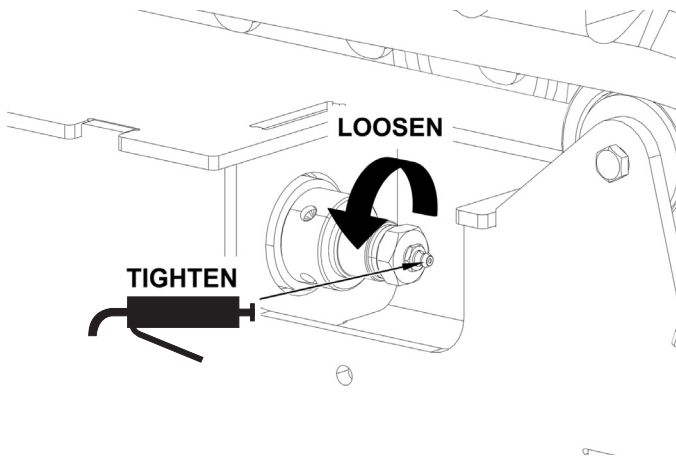

Figure 5-7. Tightening & Loosening Track
3. Pump grease into the grease zerk until the sag in the track measures 3/8". See Figure 5-7.
2. Use a 3/4" wrench to turn the large hex insert on the cylinder tensioner counterclockwise. This process will loosen the track and extract grease. See Figure 5-7.